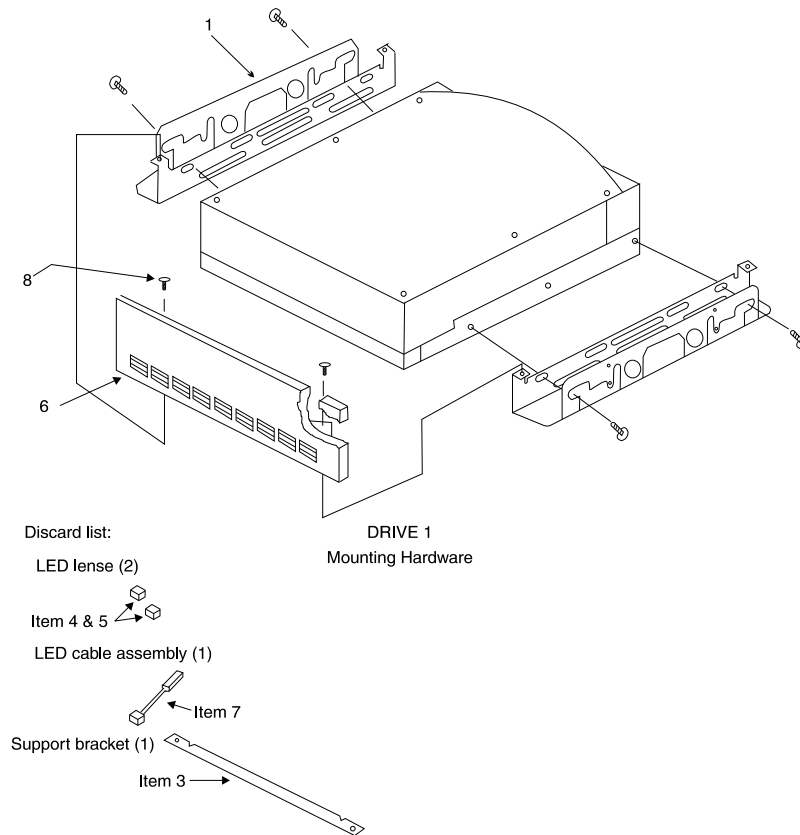
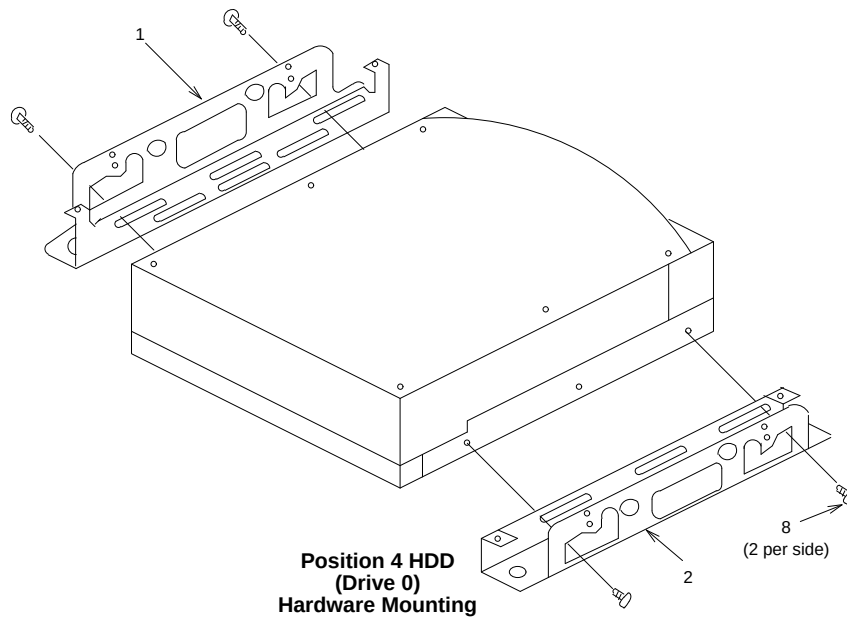
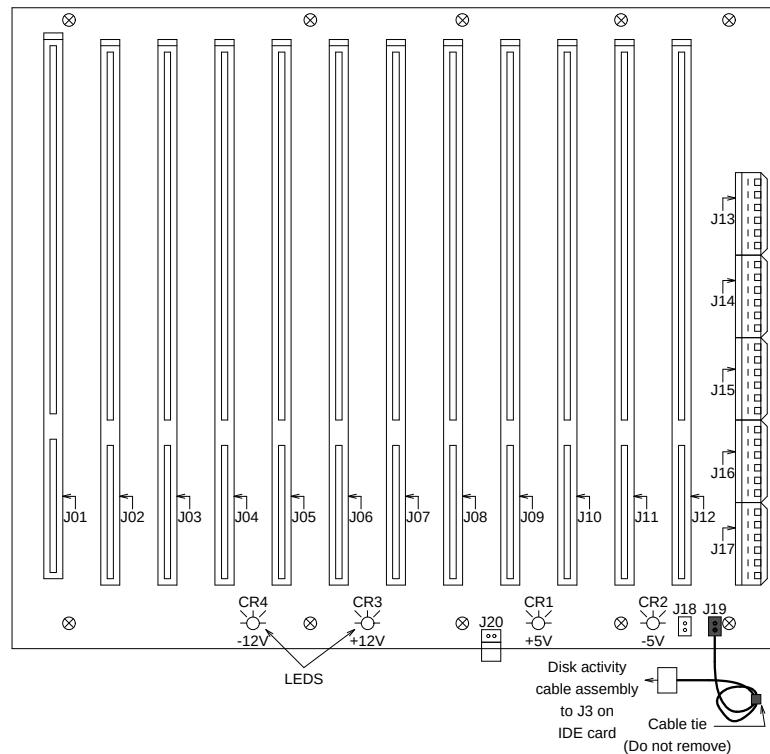

Figure C-16. Position 3 Hard Disk Drive Mounting Kit
Figure C-17. Position 4 Hard Disk Drive Mounting Kit
Figure C-18. MAP/40 12-Slot Backplane LED Indicators And Cabling
14. Reattach the front keyboard cable assembly connector to the front control panel using the two lock nuts removed in Step 7. Also attach the reset switch leads to the proper switch terminals as shown in Figure C-16.
The following procedures detail removing and installing a Hard Disk Drive (HDD) in the MAP/40. There may be two hard disk drives, located in Position 3 and Position 4 of the peripheral bay. The HDD in Position 3 (Figure C-16) is named "Drive 1". The HDD in Position 4 is named "Drive 0" (Figure C-17). Procedures will vary depending upon which drive is in need of replacement.
13. Place the defective hard disk drive on an ESD protected work bench. Loosen and remove two Phillips head screws on each side of the HDD to release it from the mounting brackets. These screws are shown as Item(s) 8 in Figure C-17 (Position 3 HDD) or Figure C-18 (Position 4 HDD).
The following procedures detail removing and installing the 12-slot backplane (406900084), which all of the circuit cards and peripheral device connections are made to. The backplane is located in the bottom of the MAP/40 card cage area, as shown in Figure C-18.
12. Unplug the disk activity cable assembly (406899856) from J19 pin header on the backplane as shown in Figure C-2, Figure C-3, Figure C-14, and Figure C-18.
2. Visually inspect the backplane to verify that the J20 jumper shown in Figure C-18 is present. If this jumper is not provided, remove the jumper from the defective backplane and assemble to the replacement. Make a note on the trouble report and attach to the defective backplane.
10. Make a final, visual inspection to ensure that all cables and harnesses have been reconnected to their appropriate backplane and circuit card terminations. Figure C-2, Figure C-3, Figure C-14, and Figure C-18 should be used for reference during the connection of all cable assemblies.
- The four backplane LEDs, (CR1 through CR4) shown in Figure C-18, are all lit to show that the appropriate voltages are being applied to the backplane.